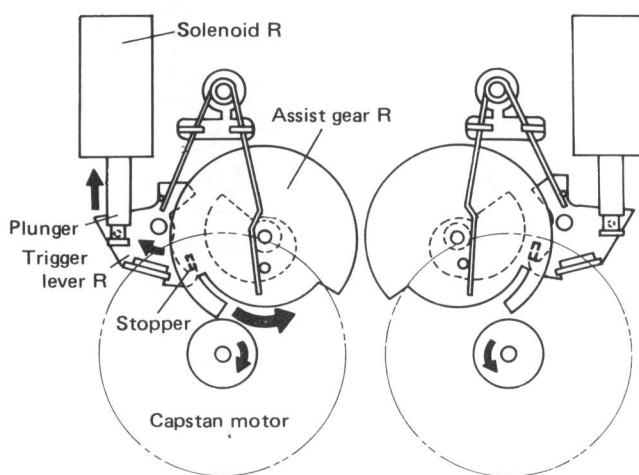

Fig. 1-6 STOP-PAUSE operation 1
1. Upon command transmission from PD6006, solenoid R turns ON (plunger retracted). (Fig. 1-6.)